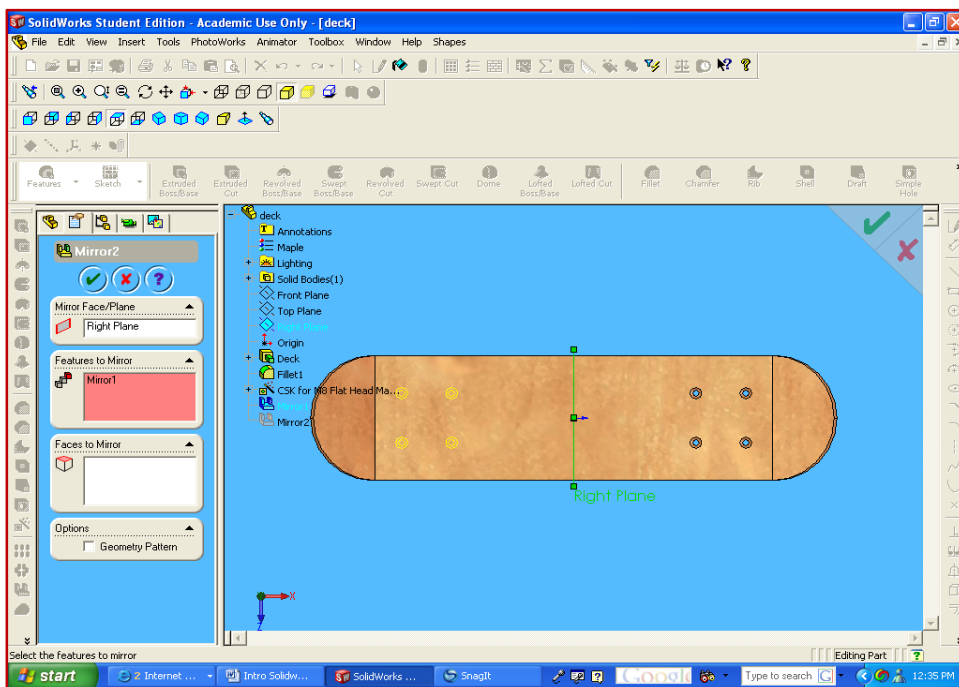

Figure 3.13 – Duplicating the 4-hole Pattern Across the Right plane
- ✓ Repeat the **Mirror** command across the **Right** plane to copy the **Mirror1** feature to the other side, as seen in Figure 3.13.